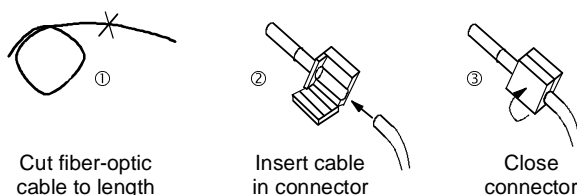

Fig. 5-4 Connecting a plastic cable
1. Cut the correct length of fiber-optic cable. Make sure you cut the cable at right angles, use a sharp knife (Fig. 5-4 ①).
3. Insert the fiber-optic cable into the connector (Fig. 5-4 ②) and push it into the cylindrical sleeve as far as it will go. The transparent fiber optic will protrude out of the other side of the sleeve.
4. Fold round the gripping half of the connector and close it by hand (Fig. 5-4 ③). Once the top half of the connector is latched into the lower half, the cable is lodged securely in the connector.